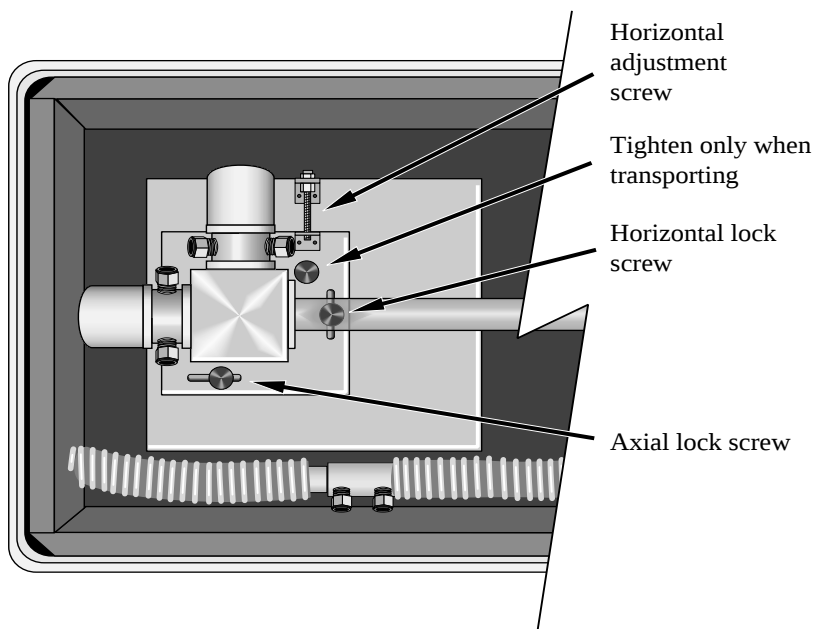

Figure 4-3. Alignment Hardware - Detector End
- 1) Loosen the transport lock screw and axial lock screw at the detector end. Note that these screws should both be tightened only for transport. They should both be loose during operation to allow the detector end to move slightly as the length of the long sample cell changes with temperature. Figure 4-3 illustrates the alignment hardware at the detector end. Note that this illustration shows the horizontal adjustment screw that was included with older units; newer units use a fine-pitch horizontal adjustment screw at the dewar end which makes horizontal adjustment at the detector end unnecessary.